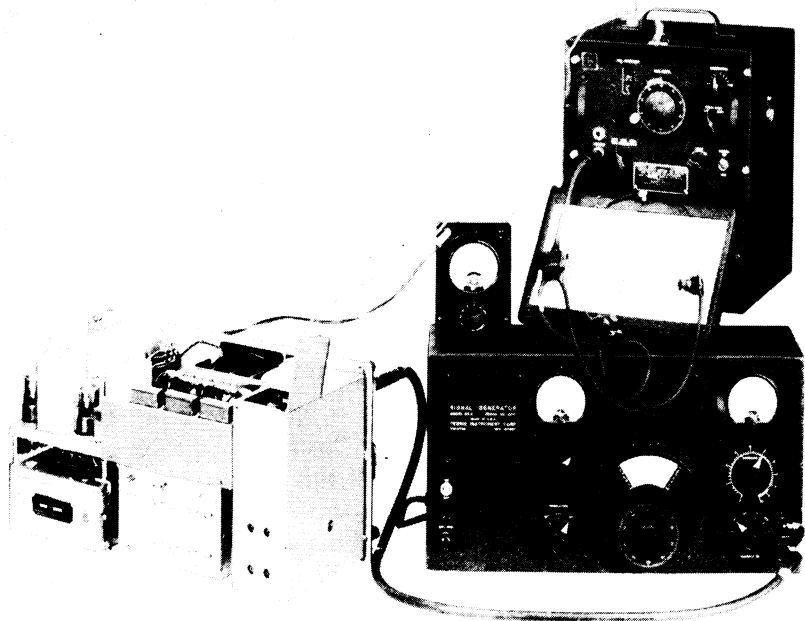

Figure 75. Typical test set-up for receiver r-f oscillator alignment.
a. **PREPARATION.** Set up the receiver and alignment equipment as shown in figure 75. Calibrate the signal generator for a 2,900-kc signal (h-f model) or for a 255-kc signal (m-f model) as described in paragraph 83. Set the receiver BAND CHANGE switch to Band A, the OFF-M.V.C.-A.V.C. switch to M.V.C., the C.W.-OSC. switch at OFF, the CRYSTAL PHASING control to OUT (h-f model) or the SELECT CONTROL at maximum (m-f model), and the VOL control at maximum. Set the receiver dial at 2,900 kc (h-f model) or at 255 kc (m-f model). Remove the screw caps which permit access to the r-f oscillator trimmer adjustment screws, loosen the screw locknuts, and open the hinged cover of the r-f oscillator cover.
b. **PROCEDURE.** (1) Attach the signal generator ground lead to